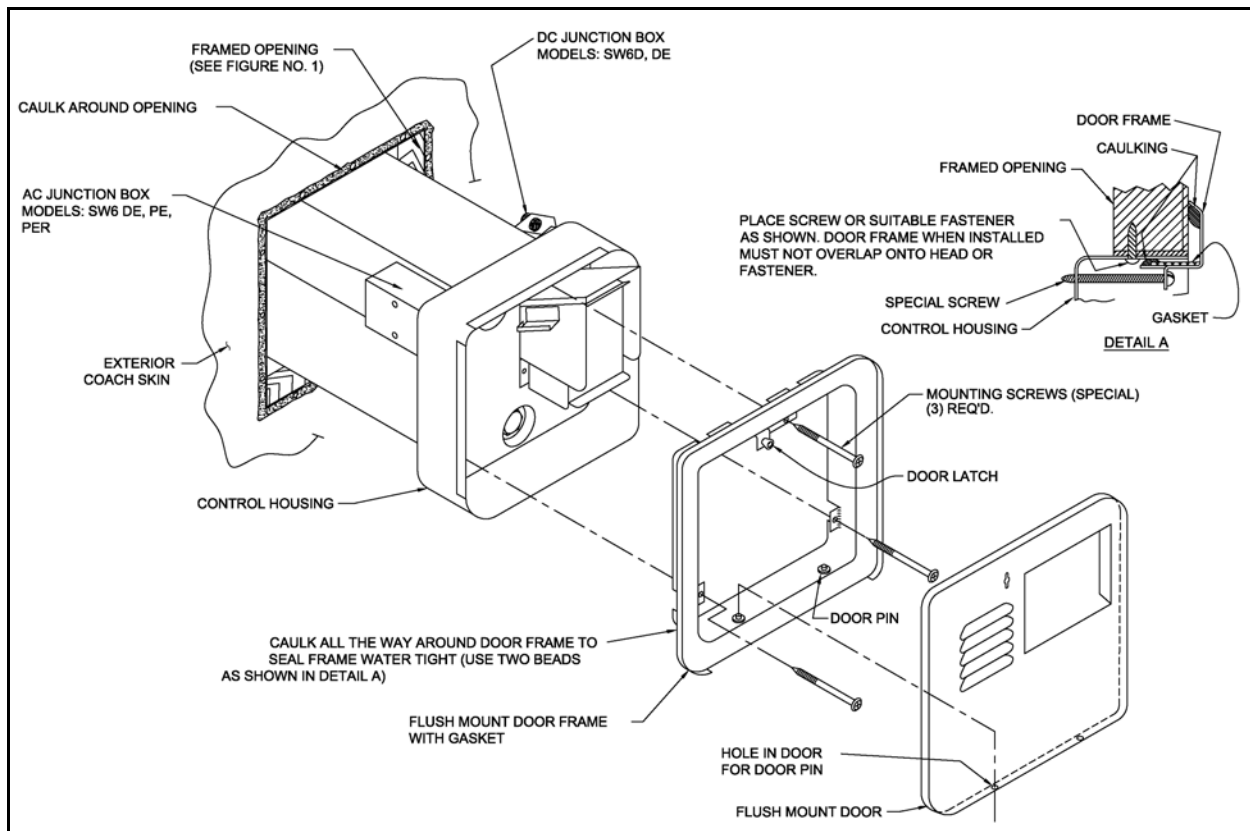

Figure 2
INSTALLATION USING FLUSH MOUNT FRAME & DOOR (See Figure 2 for Illustration)
- B.** Refer to Figure 2 for location of D.C. junction box on models SW6D and SW6DE. Refer to Figure 5 and 6 for location of D.C. junction box on models SW6DM and SW6DEM.
- B.** Refer to Figure 2 for location of A.C. junction box on model SW6DE. Refer to Figure 6 for A.C. junction box on model SW6DEM.